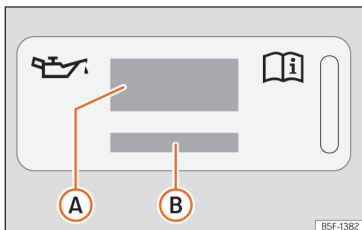
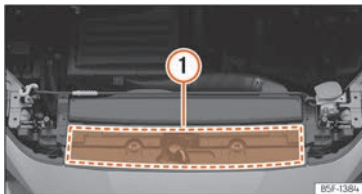

Fig. 228 In the engine compartment: engine oil label
Fig. 229 In the engine compartment: area where the engine oil label is located
Key to the »» Fig. 228:
If the engine oil has to be topped up, use one of the oils shown on the label »» Fig. 228. The label with the prescribed standard is located at the front of the engine compartment »» Fig. 229 ①. If you use the recommended engine oil, you can top up the oil as often as necessary.